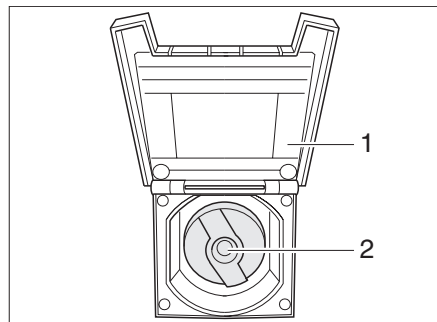

Fig. 124 Cap for the drinking water filler neck
- Open the cover flap (Fig. 124,1) of the drinking water filler neck.
- Insert the key into the locking cylinder (Fig. 124,2) and turn a quarter turn anticlockwise.
- Open the drinking water filler neck (Fig. 124).